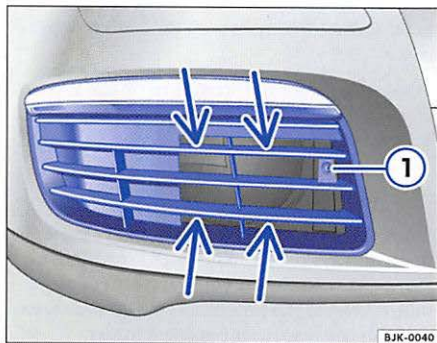

Fig. 42 Right front section: removing the cover
- Remove the screw ⇒ fig. 42 ① using the screwdriver.
⇒fig. 42 and pull the cover off.